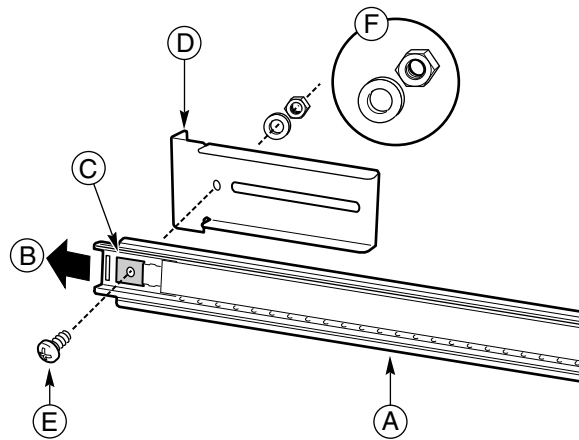

Figure 5 Correct Alignment of Screw, Washer, Nut, Bracket, and Slide Assembly (FL/RR)
2. Extend the intermediate member out from the outer member so that the hole at the front end of the outer member is visible through a rectangular hole in the intermediate member. Item B in Figure 5 shows the direction in which you must extend the intermediate member.
4. Place a screw in the holes from inside the intermediate member and tighten with a washer and lock nut. The correct alignment of the screw, washer, lock nut, bracket, and slide assembly is shown in Figure 5.